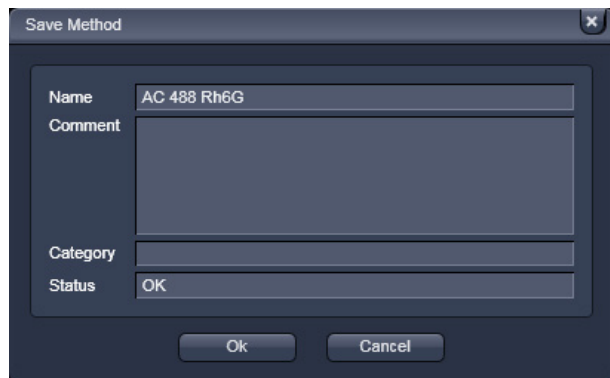

Fig. 334 Save Method panel
- Click on the **Store** to open the **Save Method** panel (Fig. 334). Click again to close the panel.
**(2) Loading a method**